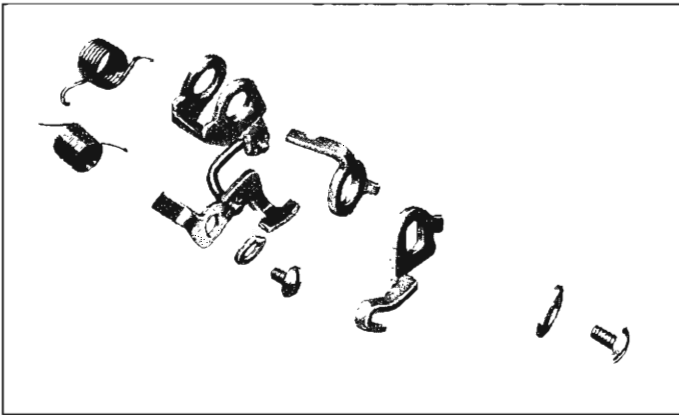

Fig. 26—Throttle Shaft Levers
2. Install primary throttle shaft dog levers and spring (fig. 26).